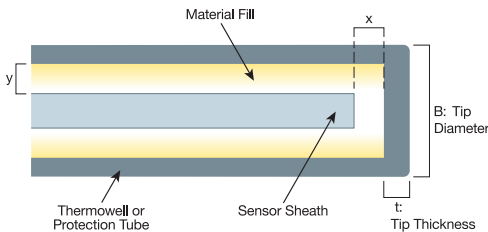

Figure 3.2.3.8b – Factors Affecting Response Time
- Select a spring loaded sensor to ensure tight contact of the sensor to the bottom of the well. (“x” = 0 in Figure 3.2.3.8b)
- Specify a thermally conductive media to fill the void between the sensor and the wall of the thermowell. (“y” dimension in Figure 3.2.3.8b)